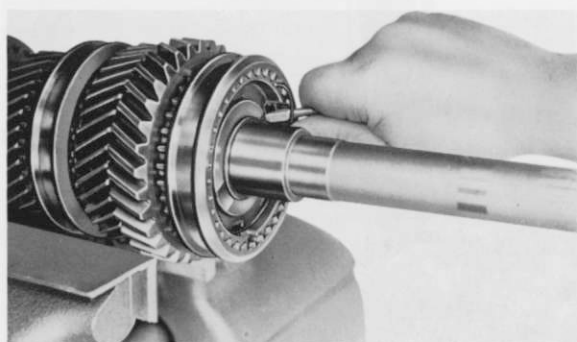

Fig. 19
1. Remove thrust washers (422) and 1st gear (421) with synchro ring (402) and needle cage (408) from the mainshaft.
2. Remove synchro spring (403) from the pressure piece (404) (Fig. 19). Pull sliding sleeve (420) from the synchro